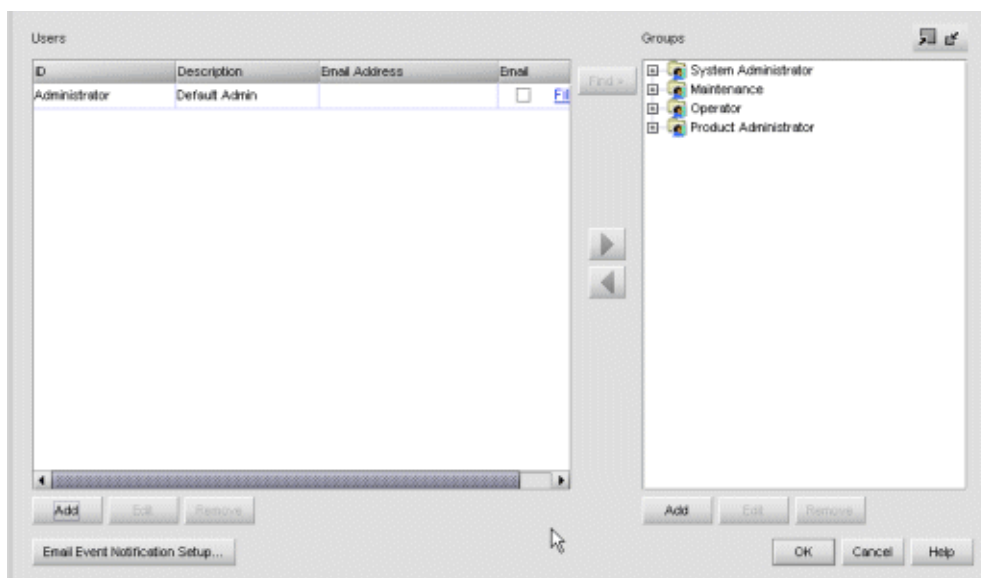

Figure 33: HAFM 8 Server Users dialog box
6. To specify users that are to receive e-mail notification, click **User List**. The HAFM 8 Server Users dialog box displays, as shown in Figure 33.